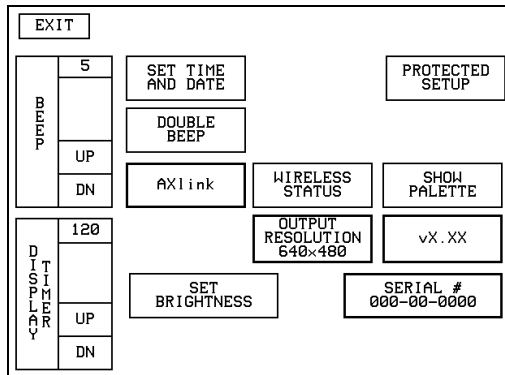

FIG. 12 Setup page
1. Press SETUP in the Main page to open the Setup page (FIG. 12).